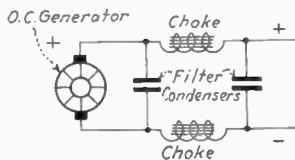

FIG. 7C.
*Ans.* Figure 7C illustrates a typical filter system used in high-power tube transmitters.